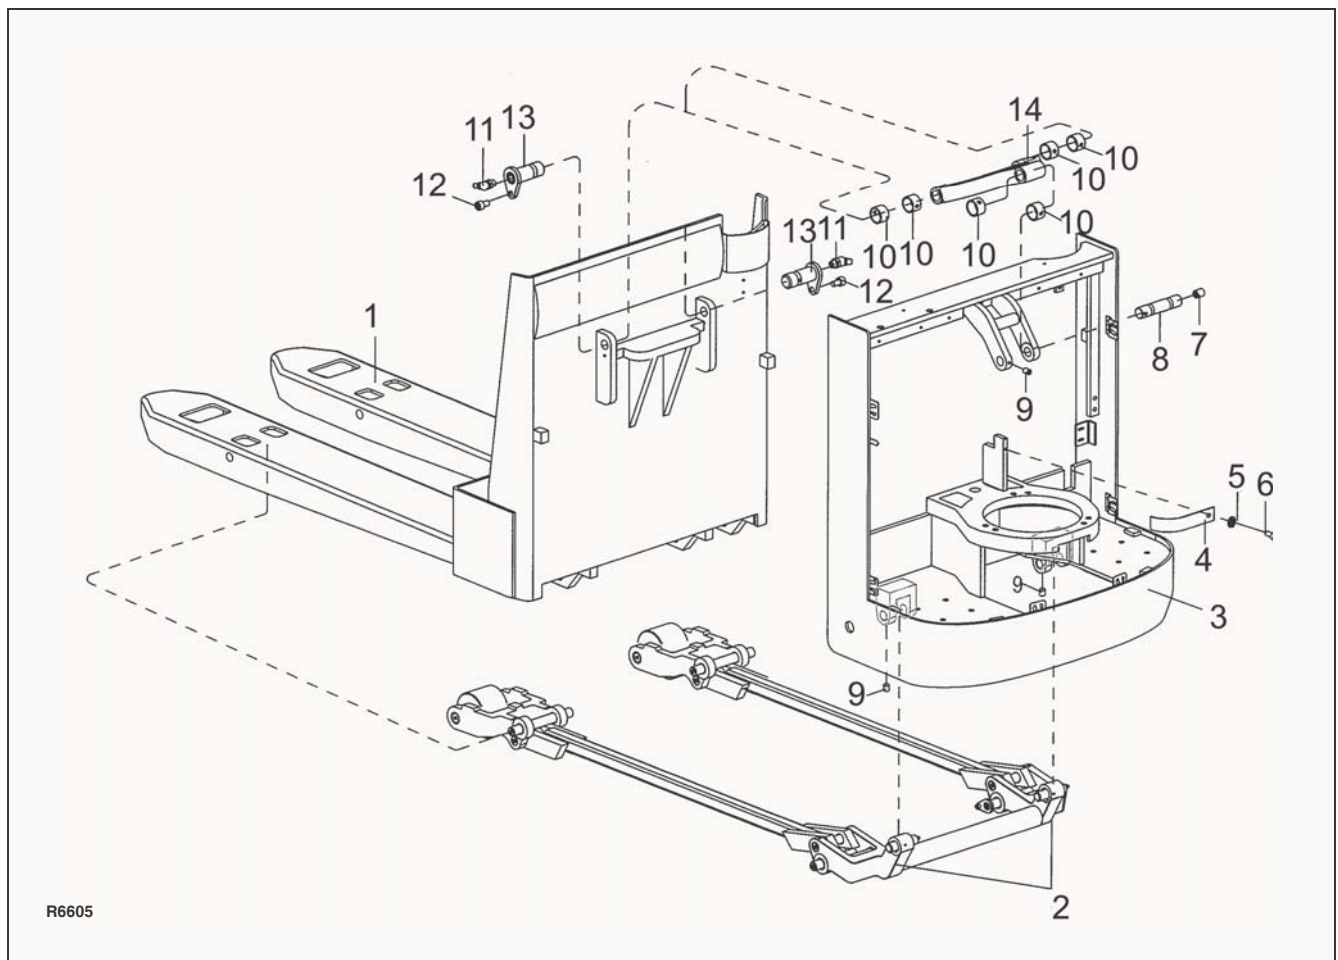
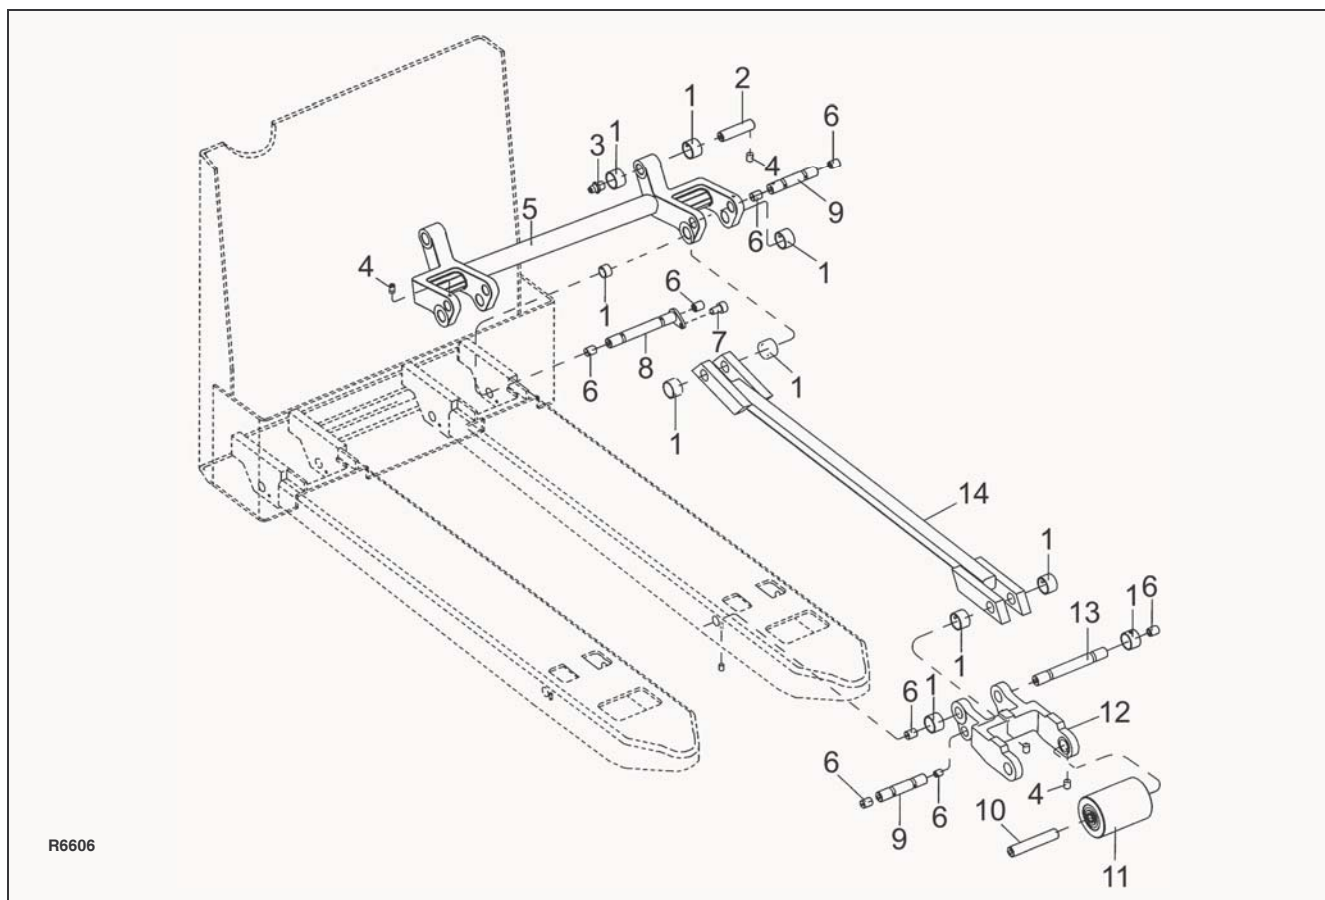

Figure 8-1 Frame
Figure 8-2 Lift Linkage Assembly
1. Lift complete truck to height sufficient to permit access to lift linkage under forks. Provide blocking under frame (3, Figure 8-1), the rear of fork section (1) and at tips of the forks.
3. Remove screw (9, Figure 8-1) from each side of frame (3). Support tension rod (14, Figure 8-2) and remove pin (2) from each side of link (5). Lower link (5) to the floor.
4. Support both tension rods (14) and remove pins (9).
5. Remove tension rods (14) with attached parts from under the fork.
1. Position tension rods (14, Figure 8-2) with attached parts under the fork.
2. Position bracket (12) in the fork and install pin (9).
3. Raise each tension rod (14) into position and install pin (2) through the frame. Secure Pin (2) with screw (9, Figure 8-1).
1. Support entire truck on blocking, providing separate blocks so that fork section (1, Figure 8-1) can be fully supported when frame (3) is removed.
8. Attach a suitable hoist to frame (3, Figure 8-1).
9. Remove screw (9) and shaft (8) from frame (3).
10. Remove screw (9). Support link (5, Figure 8-2) and remove pins (2). Lower link (5) to the floor.
11. Remove frame (3) from fork section (1).
1. With suitable hoist, carefully move frame (3, Figure 8-1) into position.
2. Move link (14) into position on carrier frame (3) and install shaft (8). Secure shaft with screw (9).
3. Raise link (5, Figure 8-2) and install pins (2) and secure with screws (9, Figure 8-2).
4. Remove hoist from carrier frame (3).